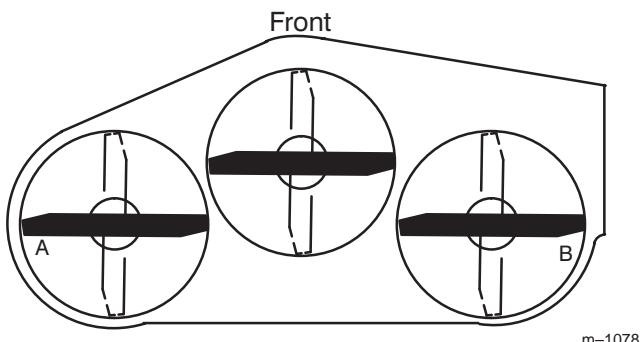

Figure 55
2. Position the blades side-to-side (Fig. 55). Measure at **A** and **B** locations (Fig. 55) from a level surface to the cutting edge of blade tips (Fig. 56).